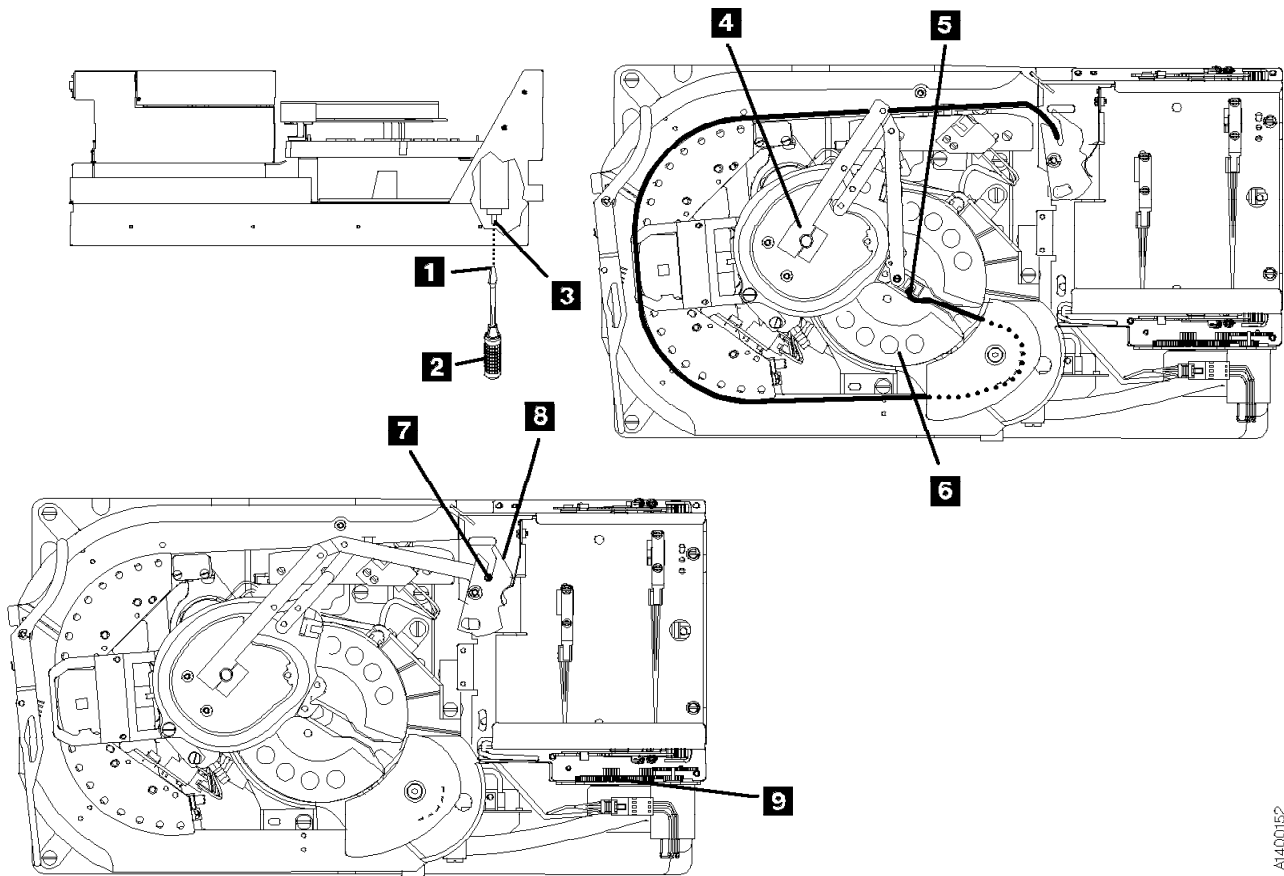

Figure 253. Leader Block and Threader Pin in the Machine Reel Hub
1. See Figure 253. Attach the tape removal tool **1** P/N 6850663 to your socket wrench handle **2**.